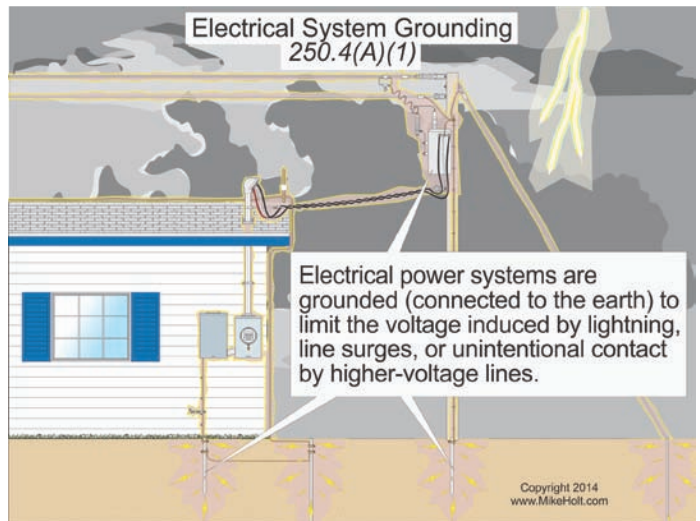

Figure 250-3
**(1) Electrical System Grounding.** Electrical power systems are grounded (connected to the earth) to limit the voltage induced by lightning, line surges, or unintentional contact by higher-voltage lines. Figure 250-3